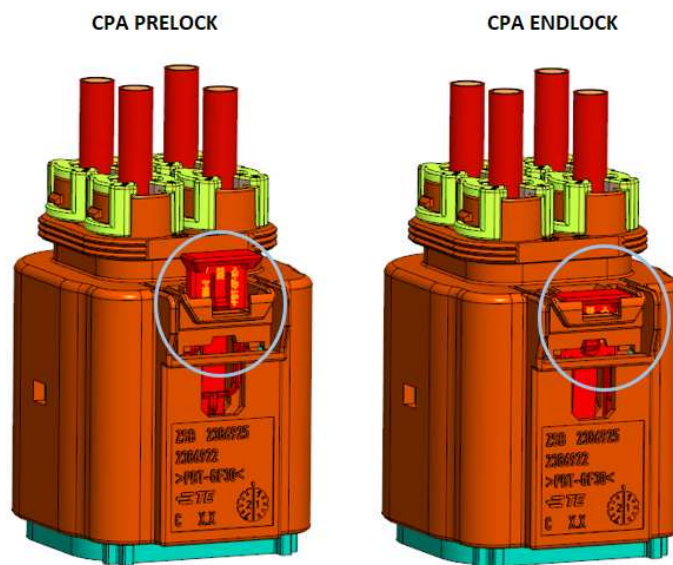

Figure 5: Move CPA to End lock
Step 2: Move CPA from Pre lock to End lock position as shown in Fig 5.